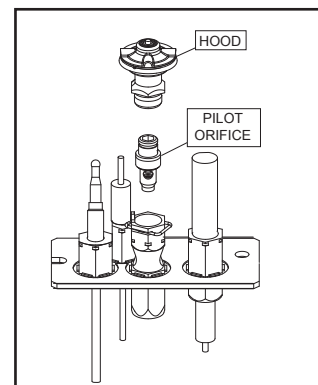

Fig. 3
- ☐ 7. To convert the pilot, remove the clip from the side of the pilot with pliers. Pull the pilot hood off. Using a 5/32" hex head Allen key, remove the pilot orifice. Replace the pilot orifice with the one supplied. Align the pilot hood back to its original position and place the clip back on the pilot (**Fig. 3**).